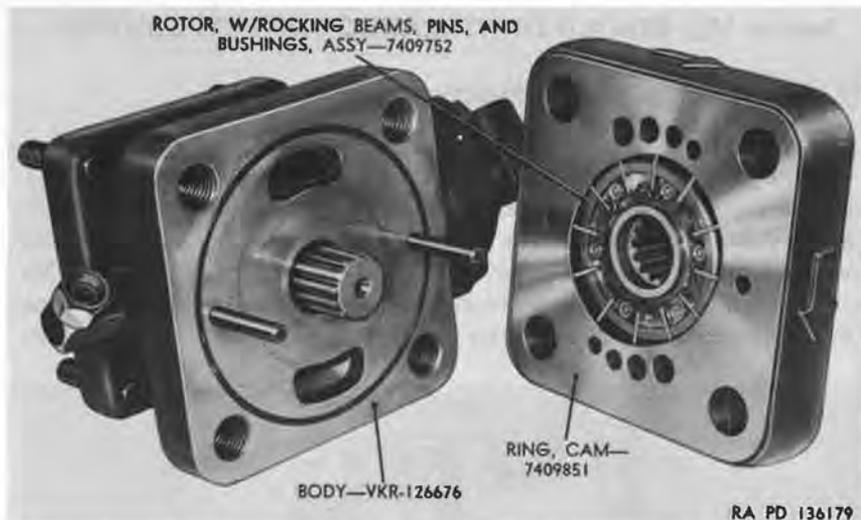
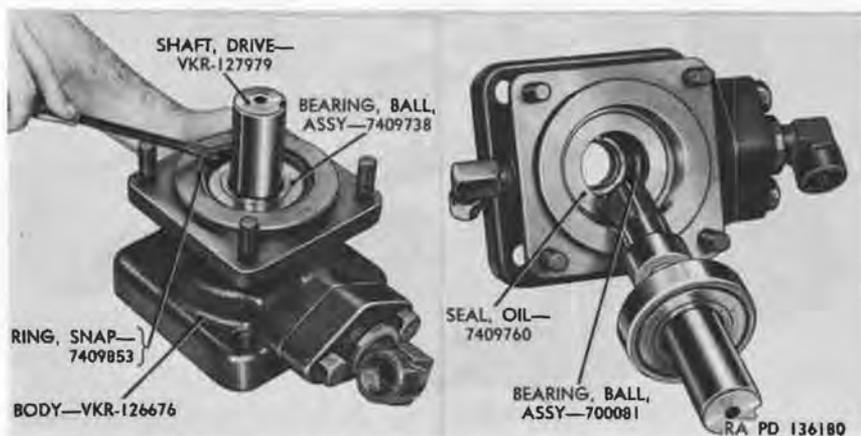

Figure 27. Cam ring and rotor separated from body.
Figure 28. Removing drive shaft and bearing.
shuttle valve balls (V) from the pressure plate (F). Lift off the cam ring (fig. 27), locating pins (J), rotor, and vanes from the body and drive shaft assembly. Do not remove rocking beams, pins, or bushings from rotor since these are riveted in place. To remove the drive shaft and ball bearing assemblies from the body, first remove snap ring (fig. 28). Tap on exposed or splined end of drive shaft with soft hammer to remove drive shaft (M) and ball bearing assembly (N) from the body (fig. 28). Use a suitable flat surfaced tool and tap out oil seal (L) by tapping from the inside. Check the relative position of this oil seal before removal so that it can be replaced by a new one at reassembly. The ball bearing assembly (R) at inner recess of body (K) may now be removed.
*b. Procedure.* Use a flat surfaced tool and press ball bearing assembly (R) into body (K). Make sure pressure is applied to outer race and that bearing is squarely seated. Similarly press oil seal (L) into body noting that the three small oil holes located on the face of the seal and adjacent to the seal inside diameter will face toward the inside of the motor when installed. Press ball bearing assembly (N) onto drive shaft (M) making sure that pressure is applied to inner race only. Install bearing and drive shaft assembly into body and insert snap ring (P). Insert locating pins (J) and new O ring gasket (S), into face of body. Place twelve vanes (T) into rotor assembly (H) and note that radius end of vanes will contact the cam ring (G). Slide rotor and vanes into cam ring and engage ends of rocking beams on both sides of rotor with inner ends of vanes so that all vanes will be held outward against the cam ring. Aline and install cam ring, rotor, and vanes assembly to locating pins on body (fig. 27). Make sure that rotation arrows on cam ring have not been changed. Insert two shuttle valve balls (V) and two shuttle valve ball seats (E) into pressure plate (F) and secure in place with two shuttle valve retaining pins (W). Place spring washer (D) and O ring gasket (X) on pressure plate (F). Install in cover (C) and aline cover to the assembled body and cam ring. Secure cover with four 1-8NC2 x 7 $\frac{1}{4}$  hex-head cap screws (A) and 1 $\frac{3}{4}$  ID x 1 $\frac{3}{4}$  OD plain washers (B). Tighten cap screws to torque specifications prescribed in paragraph 146.